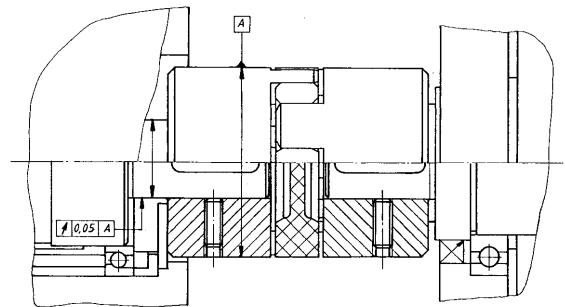
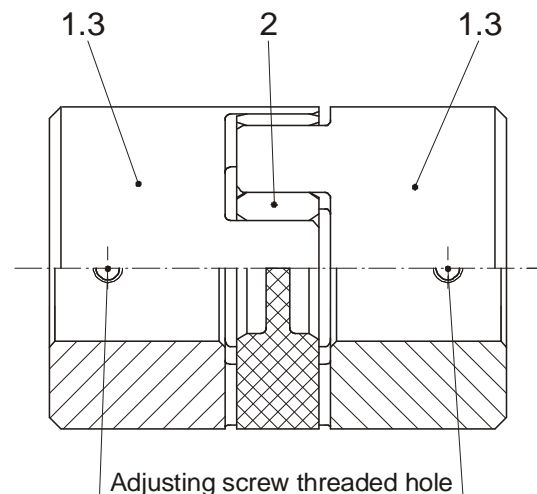

Fig. 6
Fig. 10
In case of customer-side bores, please observe the shaft run-out tolerance 0,05 to "A" (see Fig. 6).
Subsequent screwing procedures and complex housing constructions become unnecessary.. (see Installation Examples Figs. 6, 7 and 11).
Type 940.\_22.\_ (Fig. 10)
- Secure the hubs (1.3) axially (see also Installation Example Fig. 6). Axial securement takes place via a set screw (adjusting screw / Fig. 10).